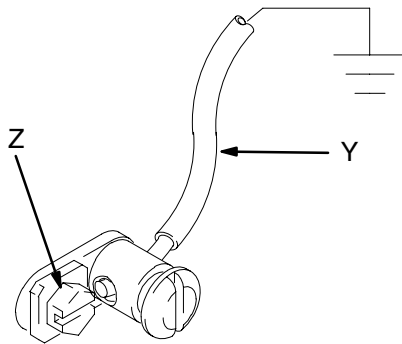

Fig. 1
1. *King Pumps:* use a ground wire and clamp. See Fig. 1. Remove the ground screw (Z) and insert through eye of ring terminal at the end of ground wire (Y). Fasten ground screw back onto pump and tighten securely. Connect the other end of the wire to a true earth ground. Order Part No. 222011 Ground Wire and Clamp.